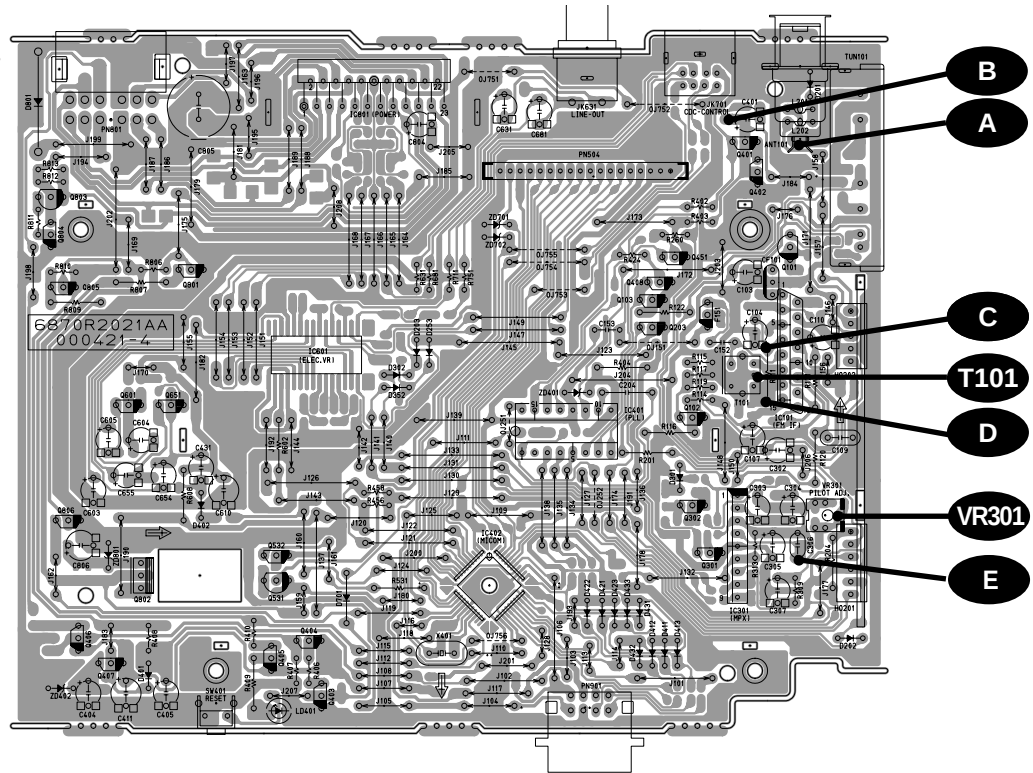

Figure 1. MAIN PCB Board
- 5. Refer to figure 1~2 for Adjustment Points.
- 3. Refer to figure 1~2 for Adjustment Points.